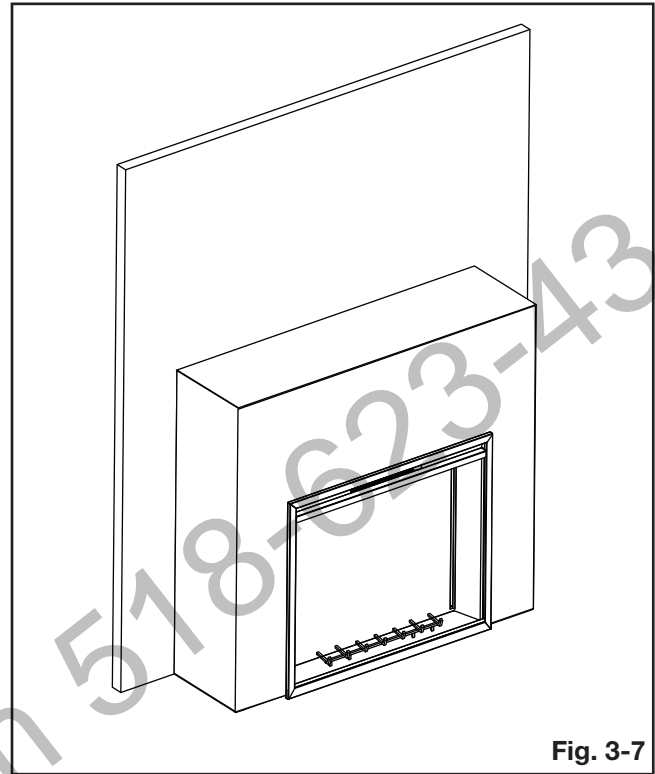

Fig. 3-7
6. Carefully lift the appliance into the rough-in framing (**Fig. 3-7**).